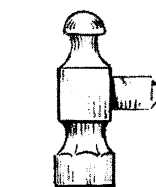

FIG. 3
5. Planish and spread the candleholder (Fig. 3).